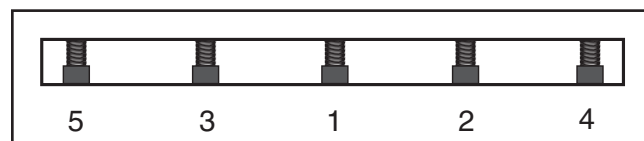

Figure 33. Gib bolt tightening sequence.
6. Slightly tighten gib bolts, starting at middle and working your way to ends by alternating left and right, as illustrated in **Figure 33**.